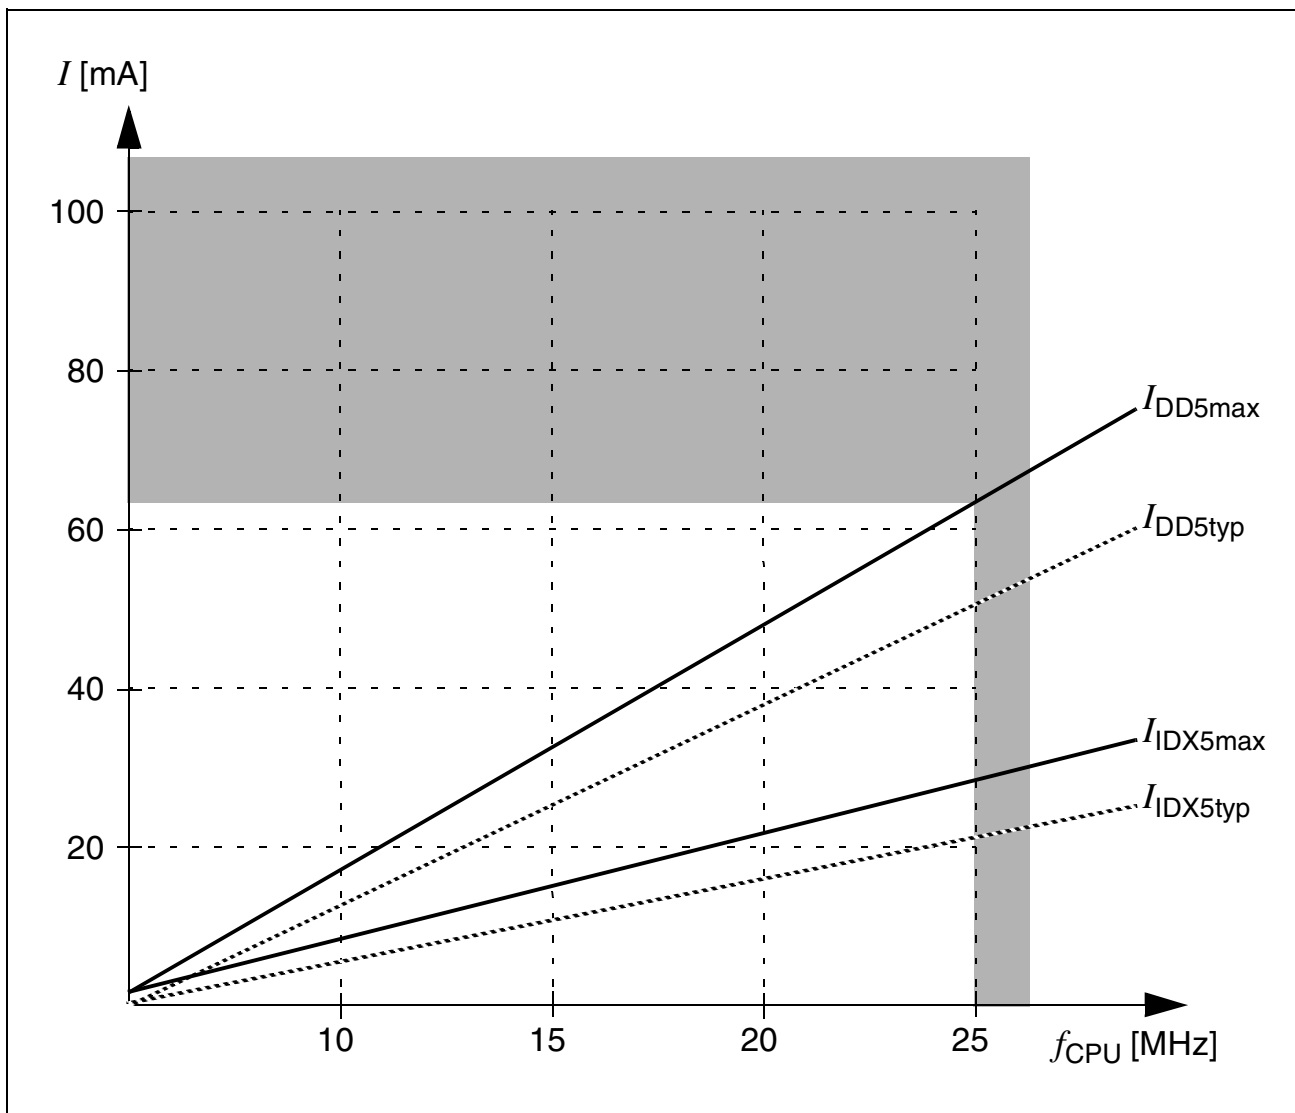

Figure 9 **Supply/Idle Current as a Function of Operating Frequency for ROM Derivatives**
- 1) The supply current is a function of the operating frequency. This dependency is illustrated in Figure 9. These parameters are tested at V_{DDmax} and maximum CPU clock with all outputs disconnected and all inputs at V_{IL} or V_{IH} .